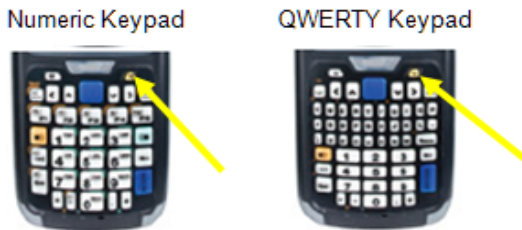

Figure 8. Location of on/off button
1. Switch on the mobile computer by pressing the On/Off button (Figure 8).